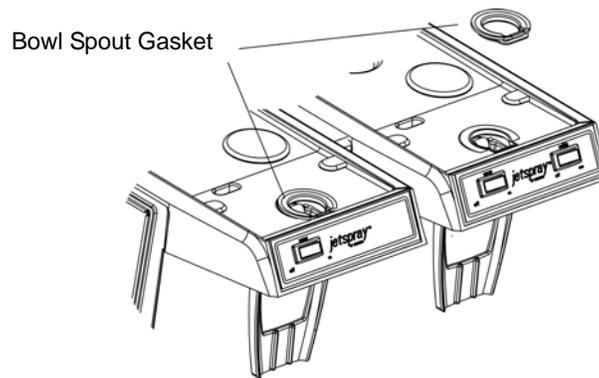

Figure 3
4. Check that bowl spout gasket is mounted properly to the base assembly, as shown in Figure 3.